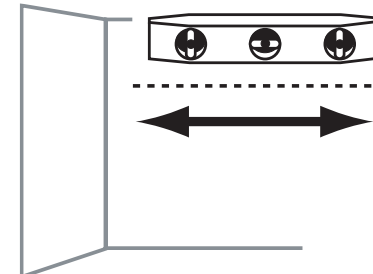

FIG. 1.1
2. Draw level line equal to shelf length for top shelf onto back closet wall (Fig. 1.1) (Shelving will cover lines drawn onto wall).